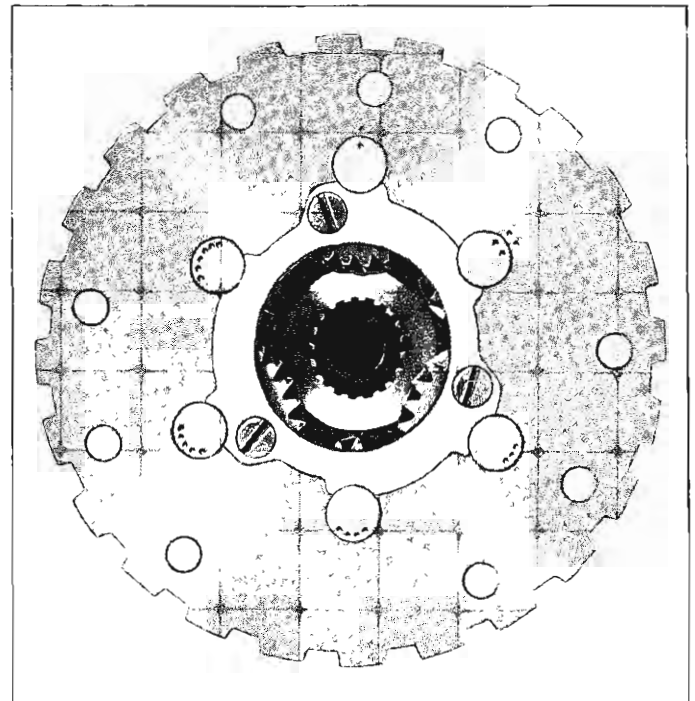

Fig. 30—Suggested Pinion Shaft Markings
2. Using prick punches or other similar means, mark each pinion shaft and also the planet carrier assembly (fig. 30), so that reassembling, each pinion shaft will be reinstalled in the same location from which it was removed.